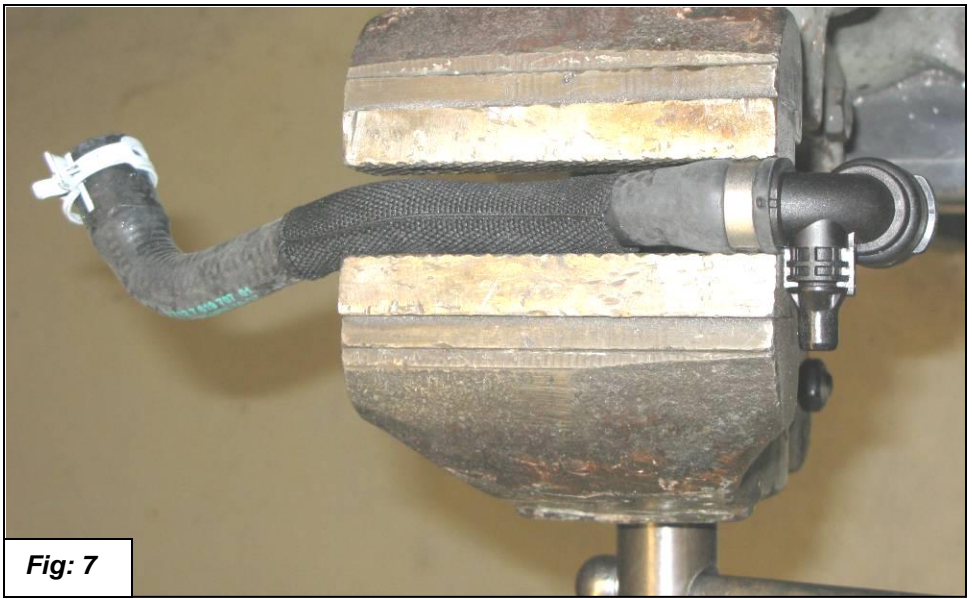
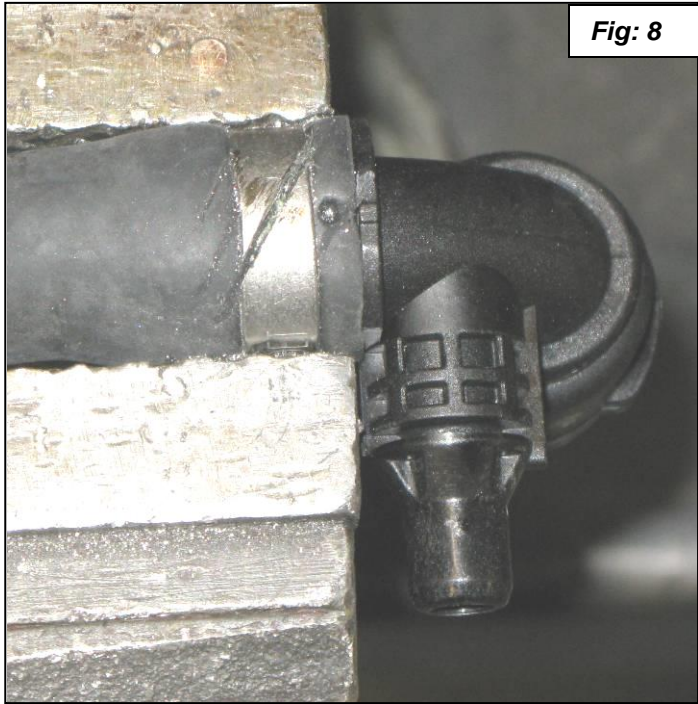
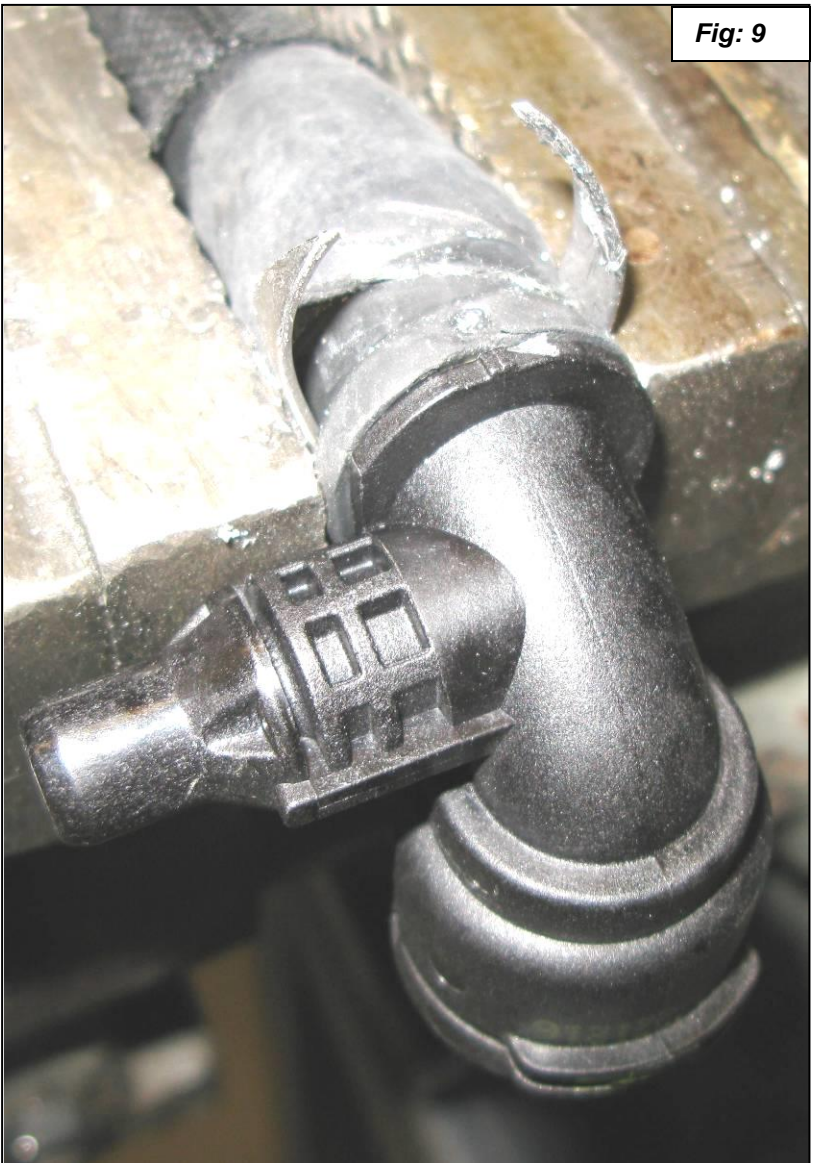

Fig: 7
Fig: 8
Fig: 9
7. Remove the plastic hose fitting from the coolant hose as shown in figures 7, 8, 9 & 10. Clamp coolant hose lightly in a vise and cut the clamp diagonally with a cut off wheel or hack saw. Be careful not to cut the plastic fitting. See figure 8. Peel the hose clamp off as shown in figure 9. Remove plastic hose fitting as shown in figure 10. You will use this with the new coolant hose.